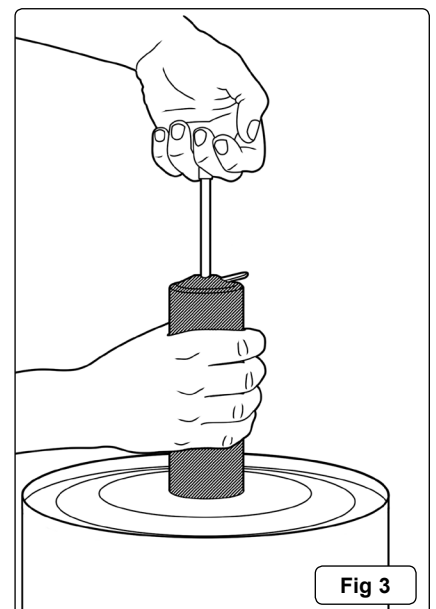

Fig 3
- 3.4.3 Submerge the open end of the grease tube into grease bucket by approximately 50mm (2") and slowly pull the plunger handle out fully (Fig 3).